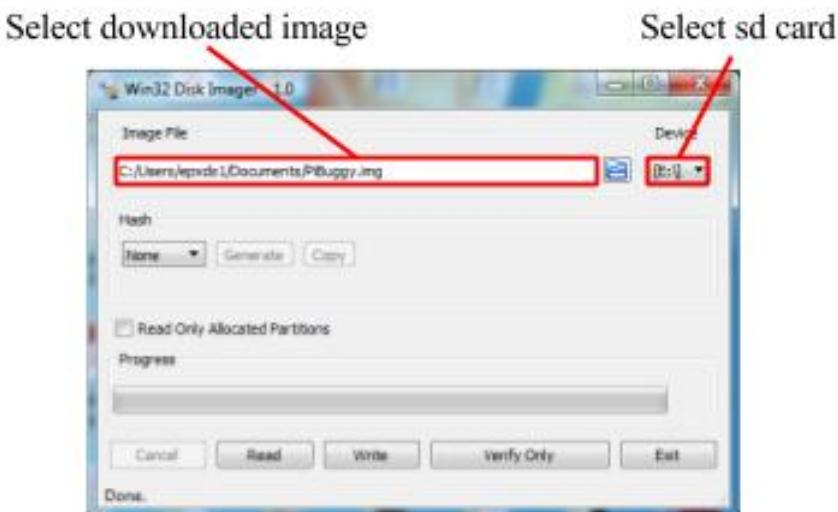

Figure 3: The disk imaging software.
Step 7: Once the power is connected, the PI should begin to boot up. After a minute or so, you should be able to see the desktop of the raspberry pi and be able to interact with its installed programs as shown in figure 3. If this doesn't happen, ensure the SD card is correctly inserted, and ask for help!